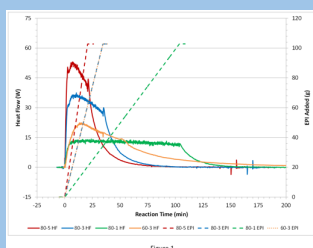

Figure 1
First, the full series of EPI hydrolysis reaction calorimetry (RC) experiments will be presented to get a feel for the kinetics of the semi-batch process as seen by the heat flow profile. Figure 1 shows a series of four reaction calorimetry runs covering three different addition rates of EPI (1, 3, 5 g/min) and two different temperatures (60°C, 80°C). Specifically, runs at 80°C with EPI feed rates of 1 g/min (80-1 HF), 3 g/min (80-3 HF) and 5 g/min (80-5 HF) and a run at 60°C with EPI feed rate of 3 g/min (60-3 HF) are shown. Also shown are the respective addition profiles. Table 1 summarizes the RC data derived from the four runs.